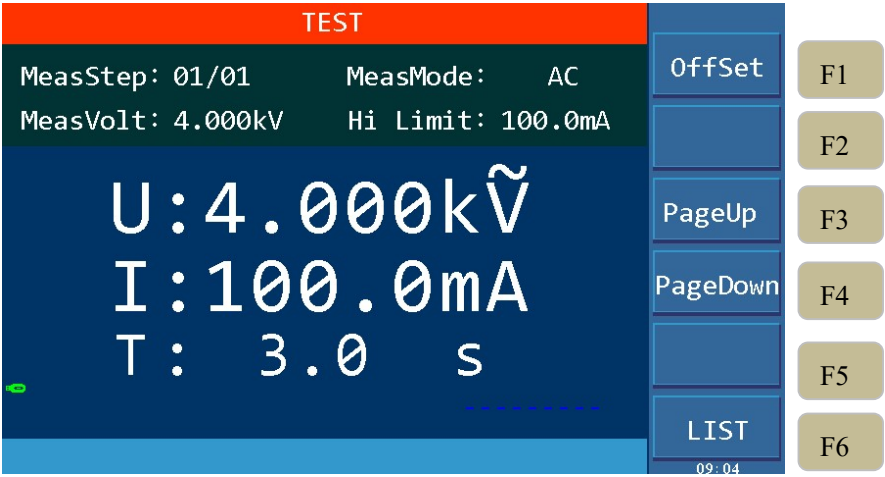
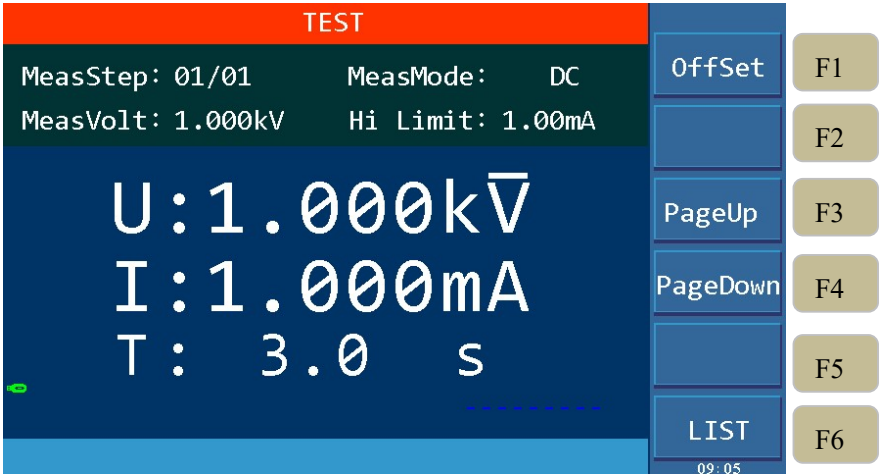
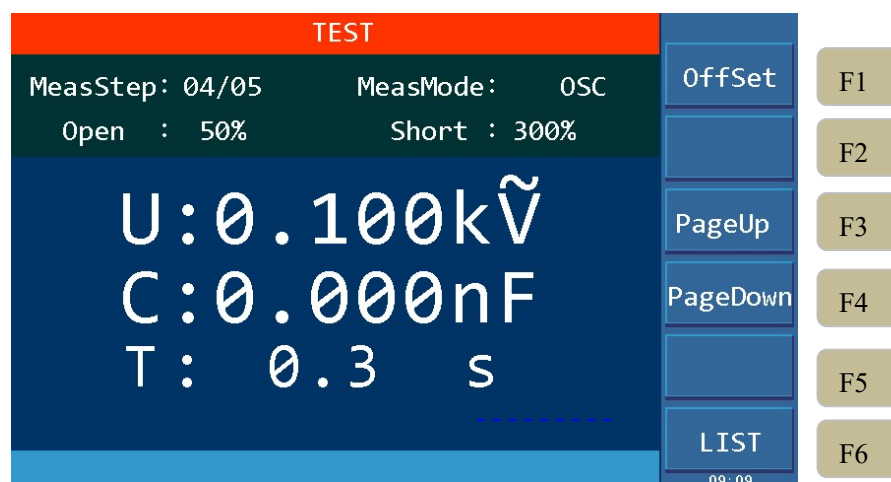
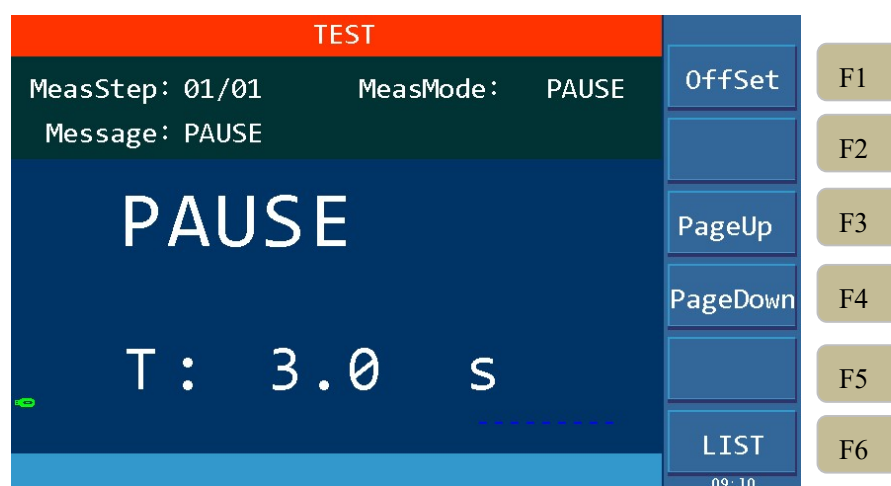

Figure 4-18.1 AC Test Interface
Figure 4-18.2 DC Test Interface
Figure 4-18.4 OSC Test Interface
Figure 4-18.5 PAUSE Mode Interface
1. Press [TEST] to enter the AC Test interface as shown in Figure 4-18.1.
2. Press F1 to offset. Press F3 and F4 key to display the main parameters of different test steps as shown in Figure 4-18.2, Figure 4-18.3, Figure 4-18.4 and Figure 4-18.5. F6 is LIST interface.
See Figure 4-18.1 ~ Figure 4-18.5 for details.